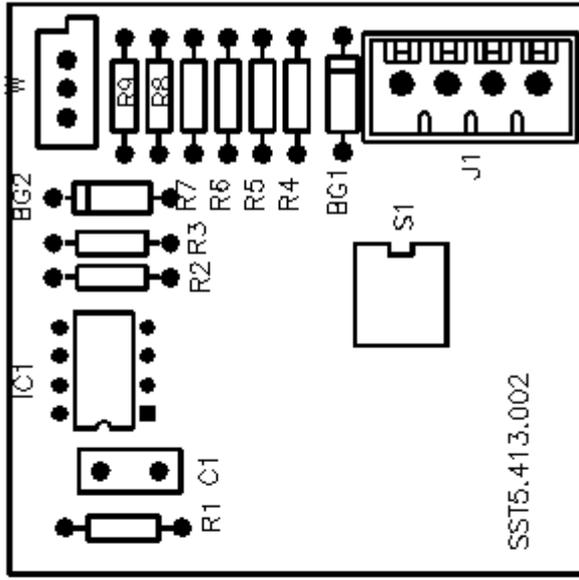

Fig5.3 PCB Arrangement of Amplifier
2. *Amplifier output voltage (static): 20mV-30mV, put black body to prevent the light from light way, refer to Fig5.3 to adjust the potentiometer W to change the output voltage to 20mV-30mV(measure the voltage between pin3 and pin4).*